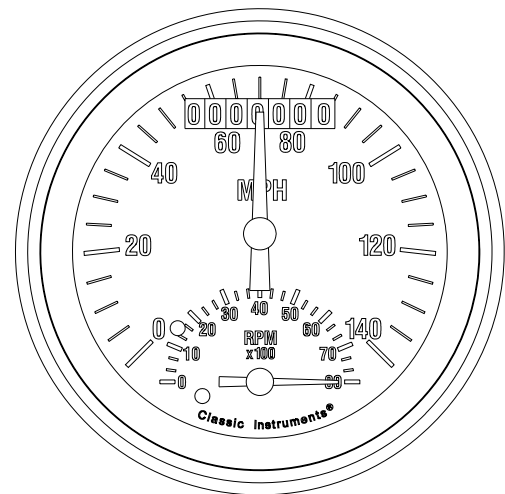

FIG. 4
- 5) If you are finished making setup changes, press and hold the pushbutton with the tachometer pointing to 8000 RPM to exit setup mode. Fig. 4